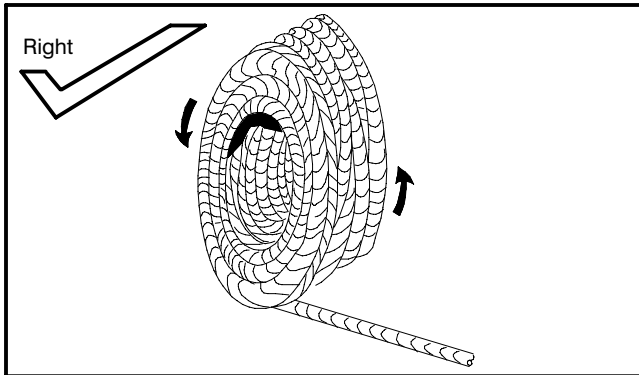

Figure 5-5
1. To avoid twists, unreel the entire wire rope on the ground in line with the boom deflector sheave and drum. Set the reel up horizontally so it can rotate as the wire rope is reeled off. Refer to Figure 5-5. Reel the wire rope off slowly, so the reel won't tend to "throw" the wire rope off. If the new wire rope cannot be laid out on the ground, further steps are necessary: